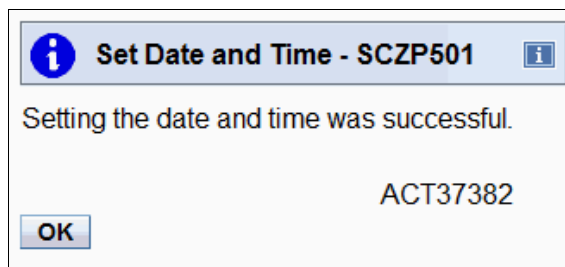

Figure 9-47 System (Sysplex) Time: Setting the date and time was successful message
- c. A message indicates success when the operation is finished (Figure 9-47). Click **OK**.